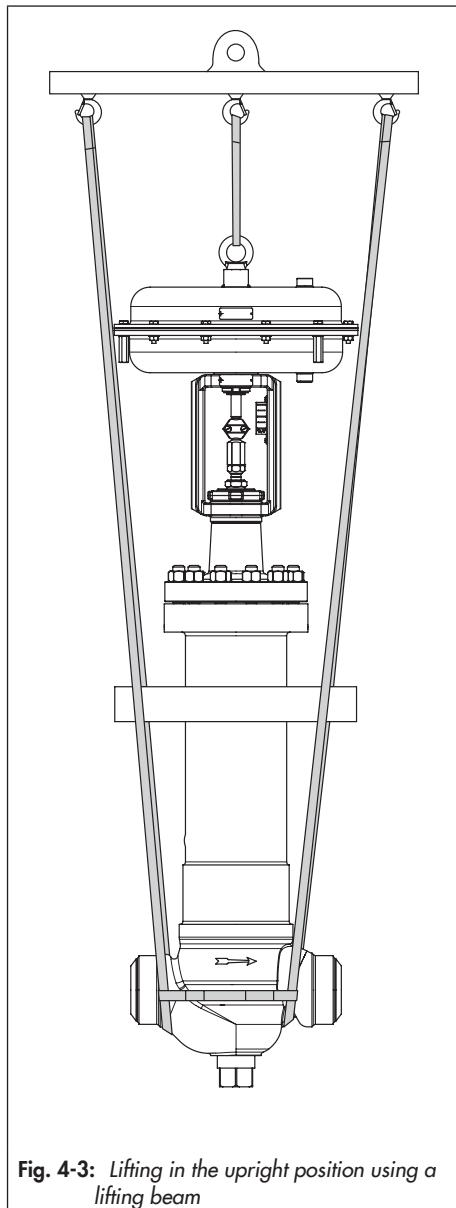

Fig. 4-3: Lifting in the upright position using a lifting beam
Optionally, the valve can be lifted in the upright position (see Fig. 4-3). On lifting the control valve in the upright position, make sure the following additional conditions are met:
1. Attach one sling to each welding end of the body and to the rigging equipment (e.g. hook) of the lifting beam (see Fig. 4-3).